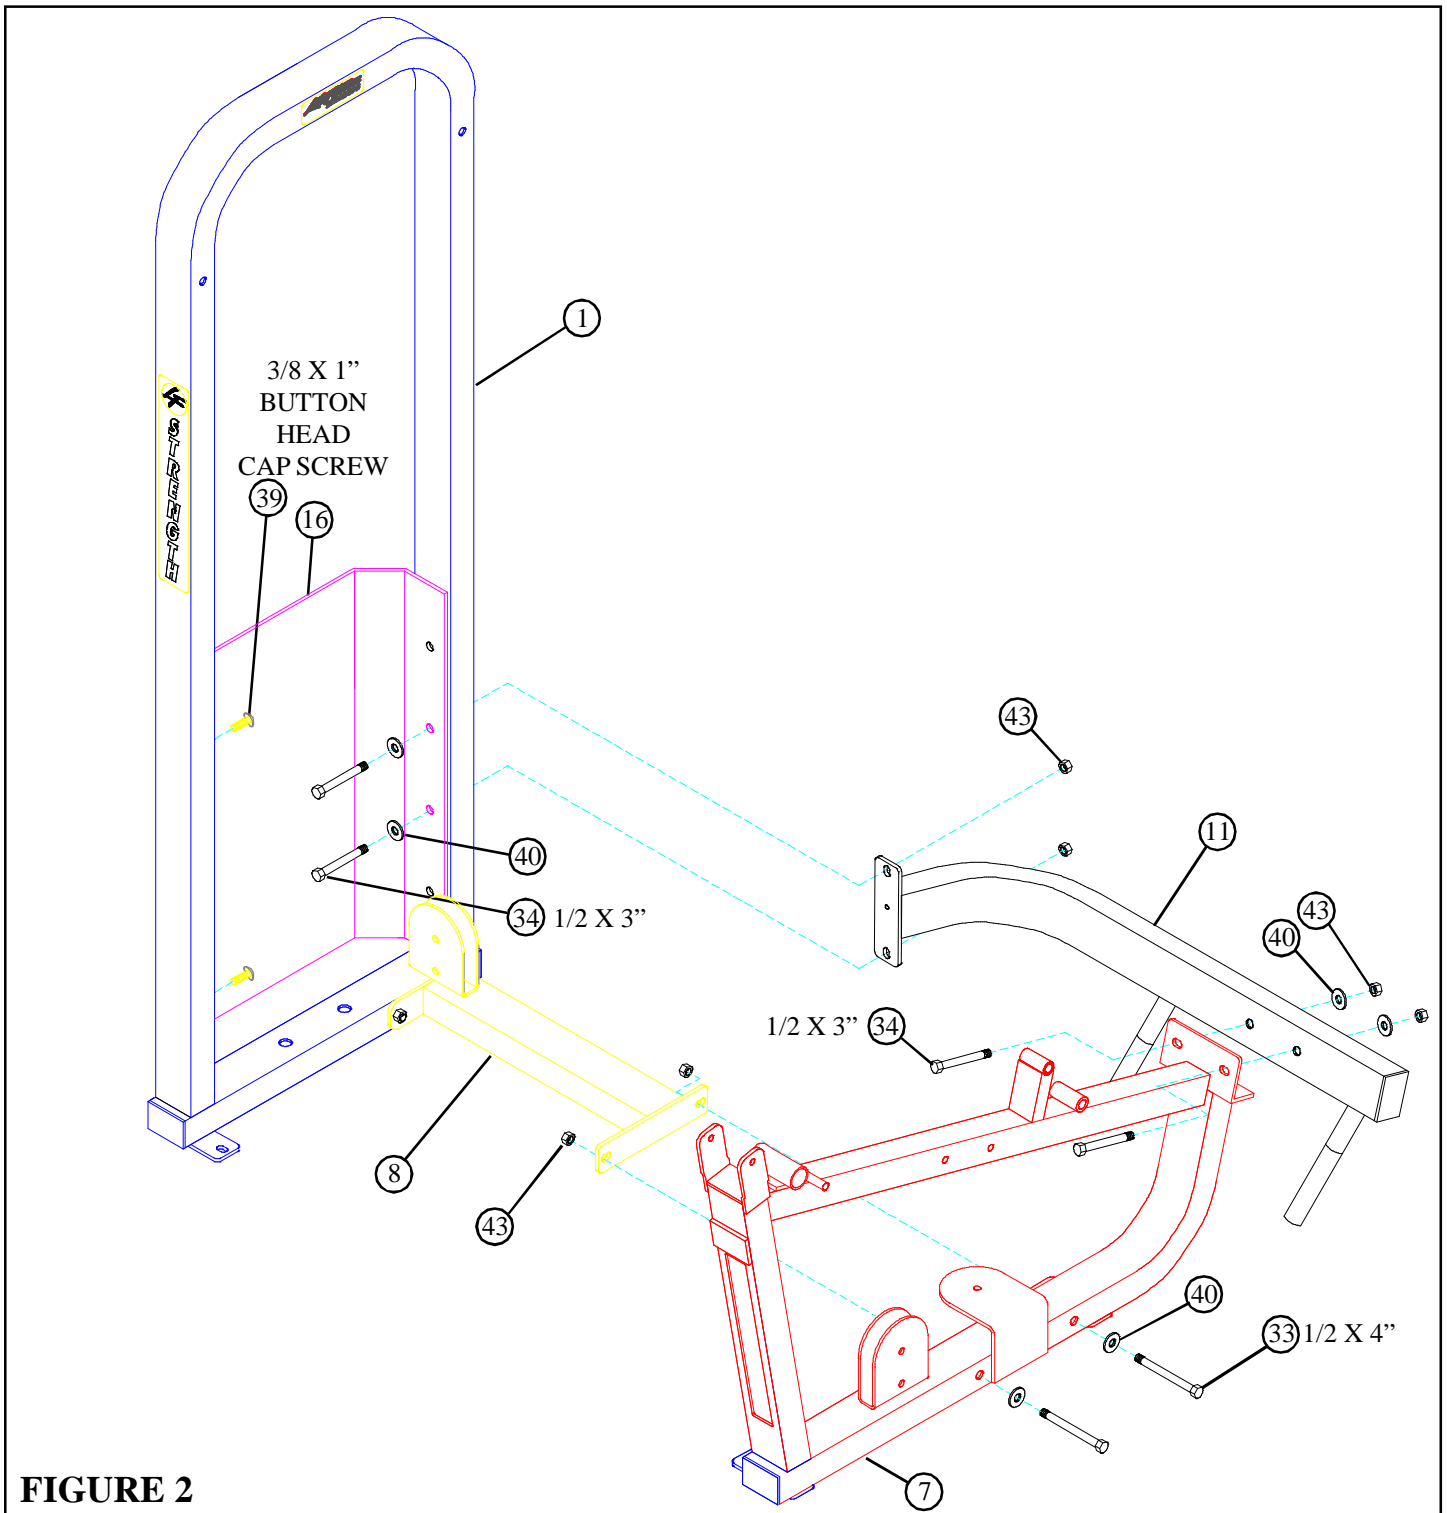

FIGURE 2
- **LOOSELY** assemble BENCH FRAME (7) to the LOWER CROSS SUPPORT (8) using two 1/2 X 4" BOLTS (33), two 1/2" WASHERS (40) and two 1/2" LOCK NUTS (43). See FIGURE 2.
- **LOOSELY** assemble UPPER CROSS SUPPORT (11) to the TOWER (1) with SHROUD (16), and BENCH FRAME (7) using four 1/2 X 3" BOLTS (34), four 1/2" WASHERS (40) and four 1/2" LOCK NUTS (43). See FIGURE 2.
- **SECURELY** assemble the other side of the SHROUD (16) to the TOWER (1) using two 3/8 X 1" BUTTON HEAD CAP SCREWS (39) as shown in FIGURE 2.
1. LOWER CROSS SUPPORT (8) to the TOWER (1) and BENCH FRAME (7).
2. UPPER CROSS SUPPORT (11) to the TOWER (1) and BENCH FRAME (7).